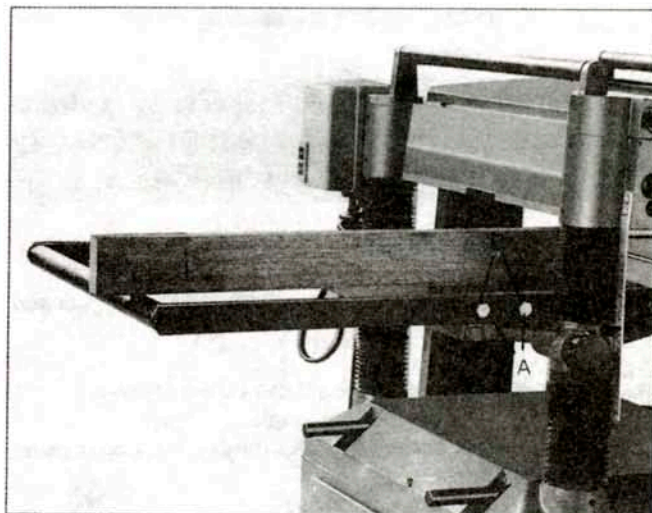

Fig. 17
1. Loosen the screws (A) and washer (B) Fig. 17 to move the table extension roller to the proper position, then tighten the screws.